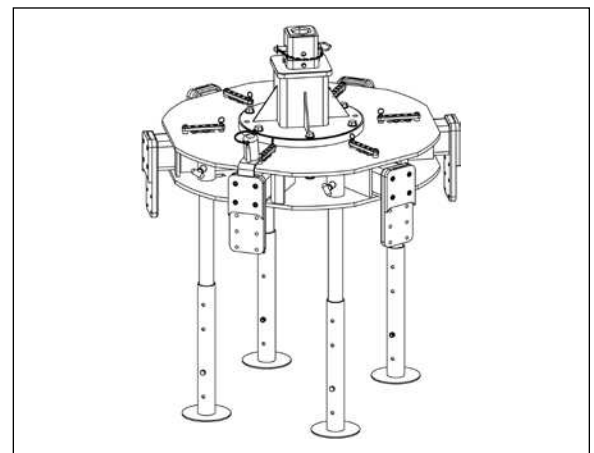

Figure 11. Six Shooter Resting On The Ground
8. While the Six Shooter remains suspended, attach the Supporting Legs. Lower the Six Shooter to the ground until it is supported by the legs, as shown in Figure 11.